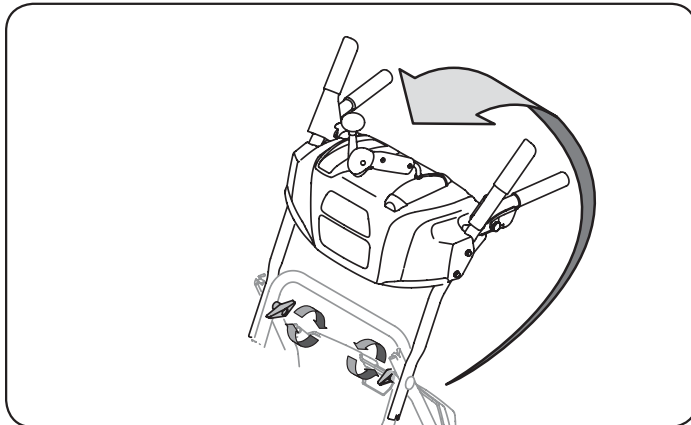

Figure 2
- a. Pull up and back on upper handle as shown in Figure 2. Align upper handle with the lower handle.